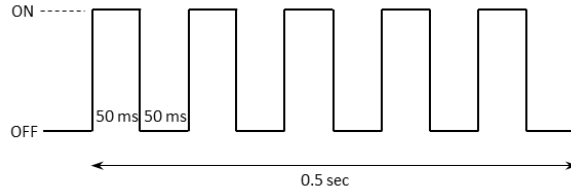
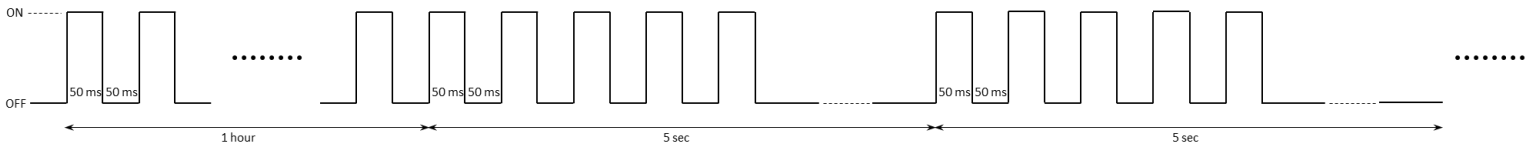

Figure 1-3: The LEDs pattern for GREEN or RED after the POST.
Figure 1-4: The GREEN pattern during join.
- a. If the POST passes, **GREEN** is toggled ON and OFF every 50 ms for 0.5 sec, as shown in Figure 1-3.
- b. If the POST fails, **RED** is toggled ON and OFF every 50 ms for 0.5 sec, as shown in Figure 1-3.
4. Both **GREEN** and **RED** are turned off when the POST and the subsequent LED flashing specified in item 3 end.
- a. **GREEN** is toggled ON and OFF every 50 ms for the first hour. But after that, it just flashes 5 times (ON time: 50 ms, OFF time: 50 ms) every 5 sec. This scheme has been shown in Figure 1-4.